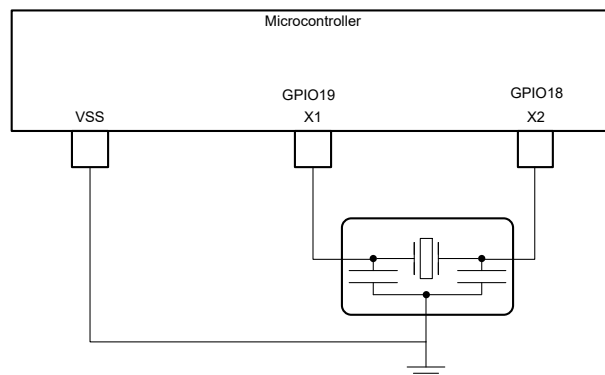

Figure 6-16. External Resonator
- An external resonator. The resonator should be connected across X1 and X2 with its ground connected to VSS as shown in Figure 6-16.